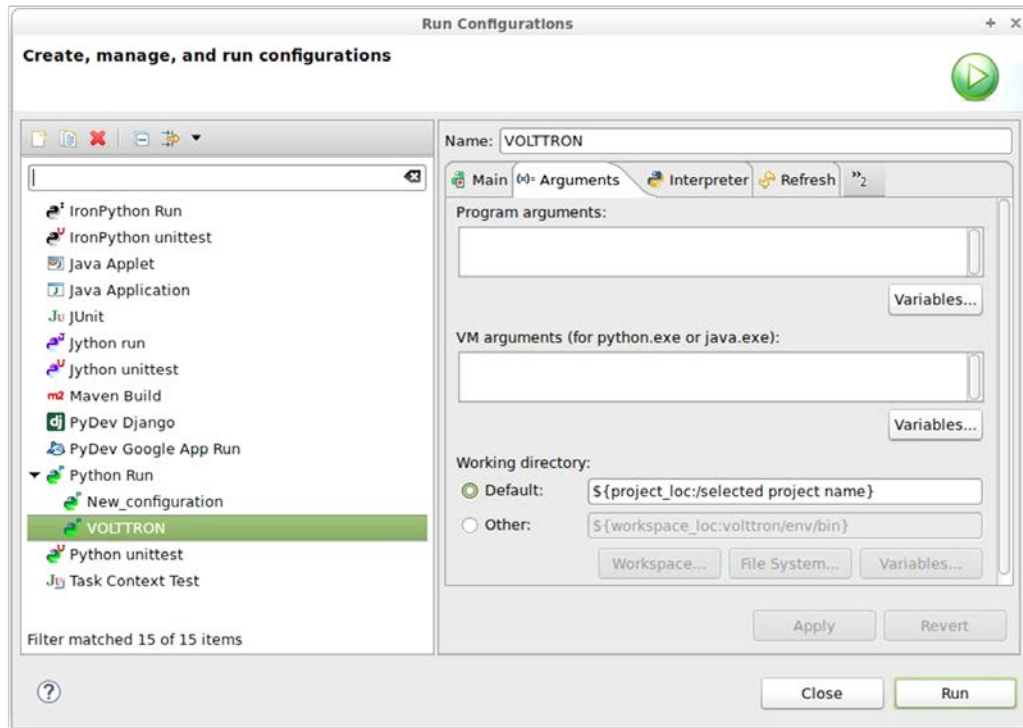

Figure 73: Running VOLTRON Platform, Setting Up a Run Configuration (Continued)
3. Select the Arguments tab (Figure 73), and select Default under the Working directory heading -> select Run at the bottom right corner of the window (Figure 73)